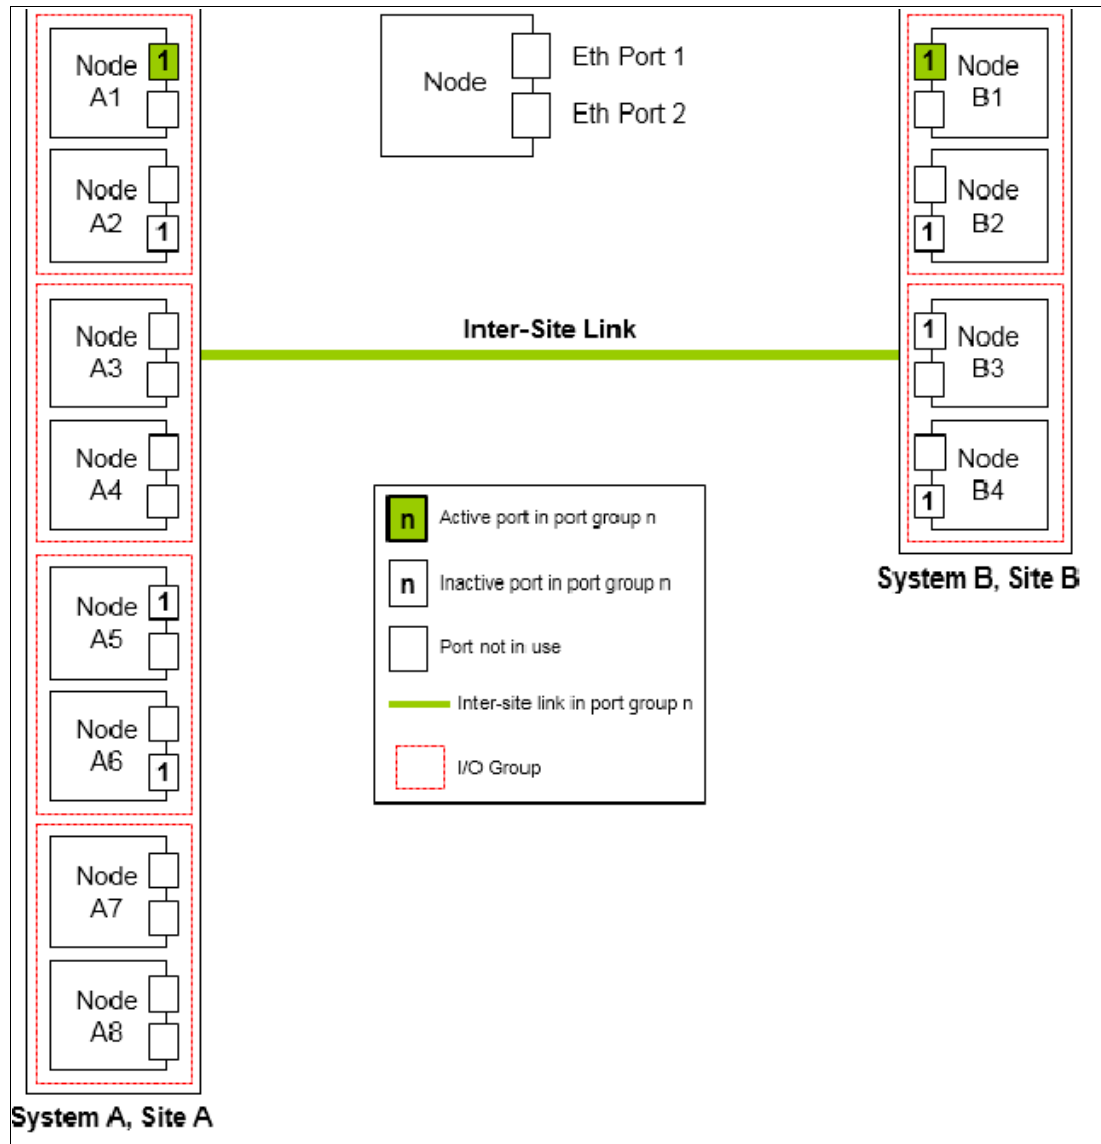
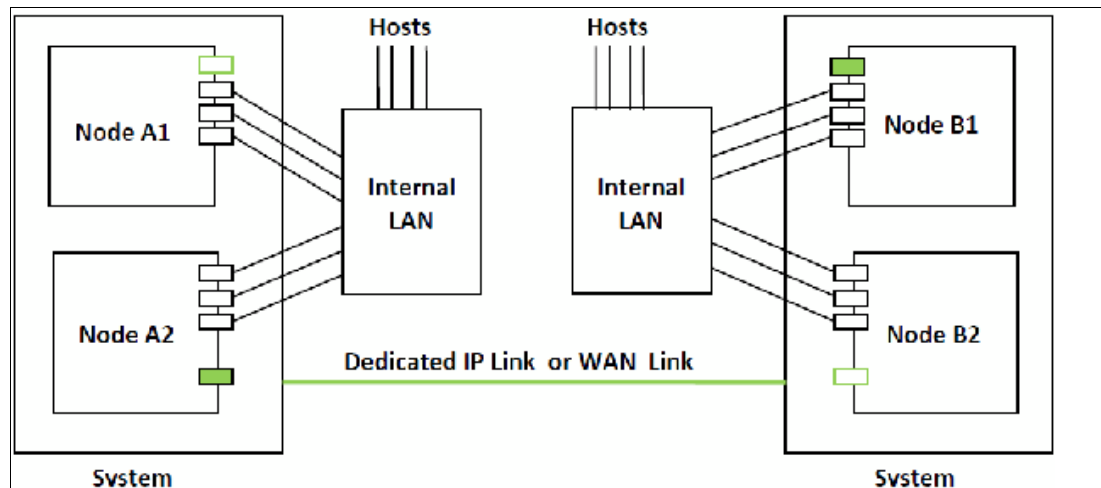
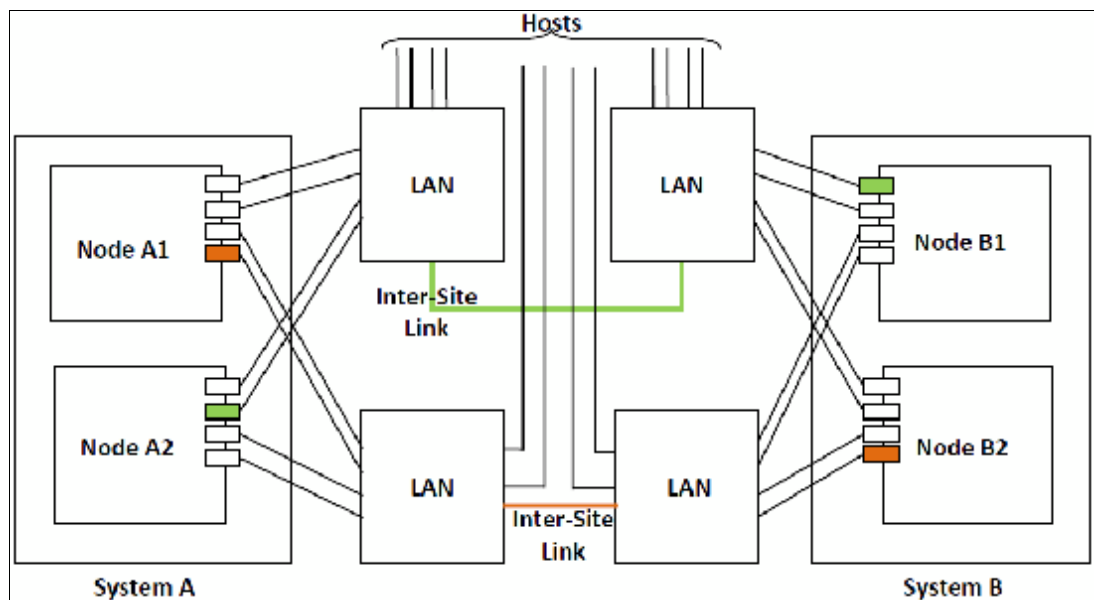

Figure 10-101 Multinode systems single inter-site link with only one Remote Copy port group
Figure 10-107 Deployment example
Figure 10-108 Deployment example
- Eight-node system in IP partnership with four-node system over single inter-site link, as shown in Figure 10-101 (configuration 4).
As shown in Figure 10-101, an eight-node system (System A in Site A) and a four-node system (System B in Site B) are used. A single RC port group 1 is configured on nodes A1, A2, A5, and A6 on System A at Site A. Similarly, a single RC port group 1 is configured on nodes B1, B2, B3, and B4 on System B.
- An example deployment for configuration 2 with a dedicated inter-site link is shown in Figure 10-107 (configuration 10).
- Figure 10-107 on page 785 is an example deployment for the configuration that is shown in Figure 10-101 on page 779. Ports that are shared with host access are shown in Figure 10-108 (configuration 11).